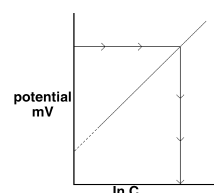

Figure 3
- Using the voltage reading and the principle described in Figure 3, the natural log of concentration of the specific ion can be determined.